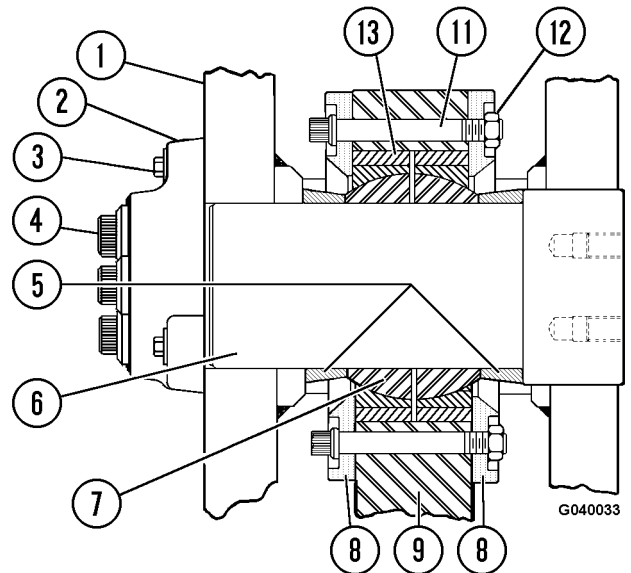

FIGURE 4-1. PIVOT PIN INSTALLATION
9. Remove cap screw and lockwasher (3, Figure 4-1). Remove cap screws (4). Remove retainer plate (2).
10. Install puller using tapped holes in head of pin. Remove pin (6).
NOTE 2: If the bore for the Pivot Pin (6, Figure 4-1) in the Mounting Structure (1, Retainer Plate side) has been damaged, a rework procedure to install a sleeve is available. The rework drawing, EG4670, is available in AK4952 Nose Cone Repair Kit.
2. Be certain spherical bearing inner race (7) is aligned. Install spacers (5, Figure 4-1) and pin (6).
3. Line up cap screw holes in pin with cap screw holes in retainer plate (2). Install cap screws (4).
- a. Install cap screws and lockwashers (3).
- b. Tighten cap screws (3) to **170 N-m (125 ft lbs)** torque.
- c. Tighten cap screws (4) to **2325 N-m (1715 ft lbs)** torque.